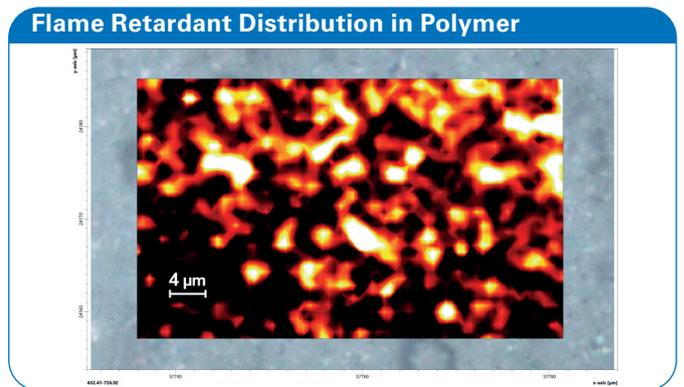

Figure 5: Chemical heatmap of melamine cyanurate (MC) in polyamide-6. The brighter the color, the more MC is incorporated into the matrix.
Flame retardants are key ingredients in polymers used for construction and engineering. They can make up to 30% of the polymer formulation in some materials! An incorrect distribution of such addtives can lead to critical comprizing effects of the base material. Figure 5 shows the chemical Raman image of the distribution of the halogen free flame retardant melamine cyanurate (MC) in a polyamide-6 matrix. The homogeneity and size of particulates is easily evaluated.